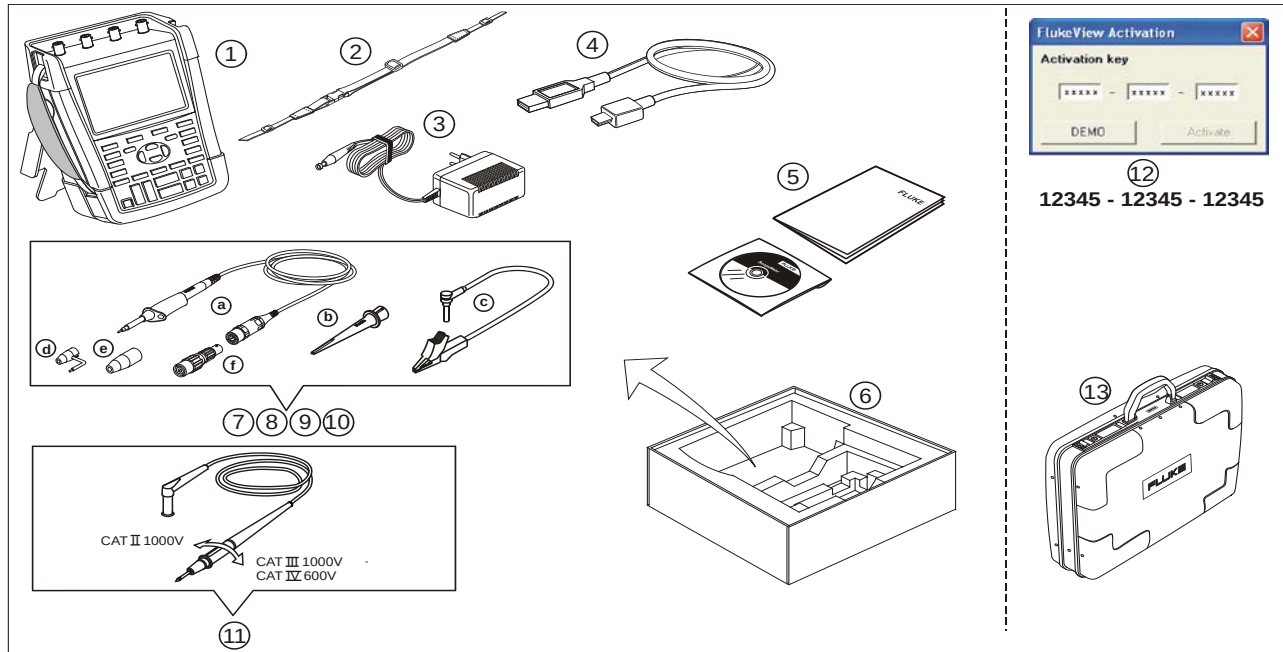

Figure 1. Test Tool Kit
The items in Figure 1 are included in your test tool kit:
| 3 | Power Adapter (country dependent, may vary from what is shown in Figure 1)                                                                                              |
- Do not connect the ground spring (figure 1, item d) to voltages higher than 42 V peak (30 Vrms) from earth ground.
- When using the ground reference lead with any of the probes, make sure that the black isolation sleeve (Figure 1, item. 10e) is over the probe tip.